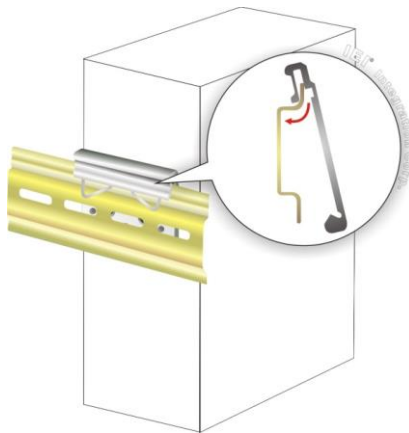

Figure 3-13: Attach the Mounting Bracket to the DIN Rail
Step 2: Attach the upper edge of the mounting bracket to the DIN rail as shown in **Figure 3-13**